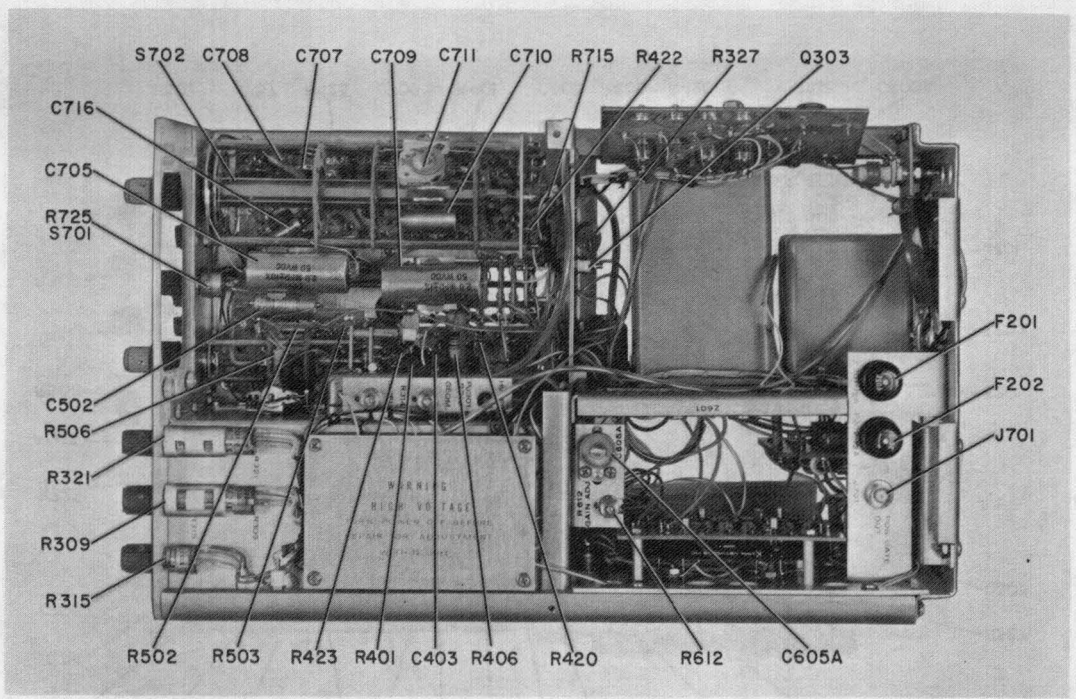

Figure 6-1. Oscilloscope AN/USM-117, only, Chassis Assembly,
oscilloscope, adjust GAIN ADJUST control R612 (figure 6-1)
(2) HIGH FREQUENCY PEAKING. - Increase the frequency of the generator to 250 kc. Set the TIME/DIV switch to display several cycles of waveform. Adjust C820 (figure 6-26) and C605A (figure 6-1) for optimum square wave response with no overshoot or undershoot. Since C820 and C605A peak in slightly different areas of the waveform, this dual adjustment is not difficult to make. Rotate the VARIABLE control full counter clockwise and increase the output of the generator to maintain the original amplitude. Adjust C822 (figure 6-26) for optimum square wave response. Since the adjustments of C822 and C820 interact somewhat, it may be necessary to make these adjustments one or two times.
(3) ATTENUATOR ADJUSTMENTS. - Return the frequency of the generator to 5 kc and display several cycles of the waveform. Make the specified adjustments for a correctly compensated waveshape (no overshoot or undershoot) on the following VOLTS/DIV ranges: 0.02-C804; 0.05-C806; 0.1-C815; 0.2-C803; 0.5-C805; 1-C809; 2-none; 5-none; 10-C812; 20-none.
(g) LOCATION OF PARTS. - All electrical components of Oscilloscope AN/USM-117 are illustrated in figures 6-1 through 6-29. Cross reference of all illustrated parts may be found in table 7-1.